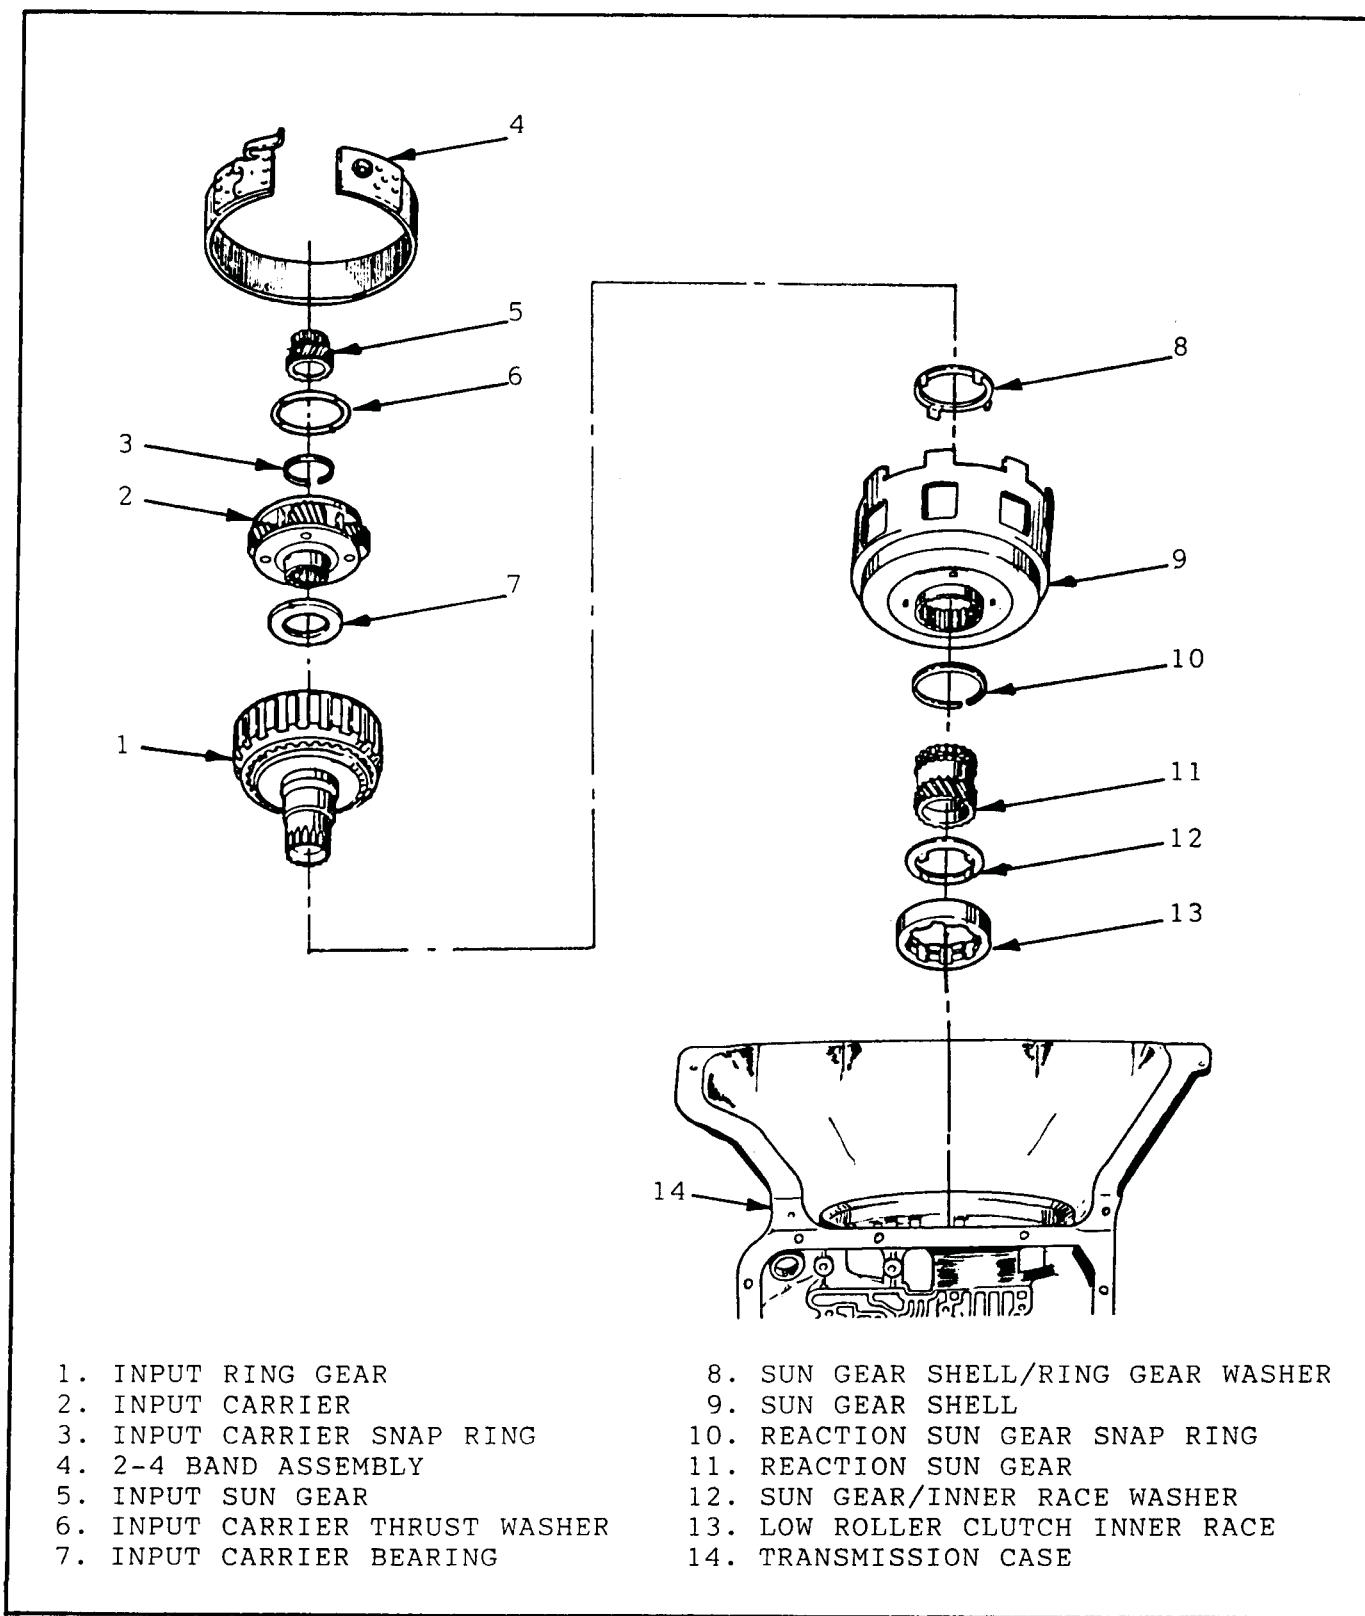

Figure 68
7. Remove the input carrier, and input ring gear and support as an assembly. Refer to Figure 68.
8. Remove ring gear support thrust washer, and sun gear shell (Figure 68).
9. Remove reaction sun gear, and thrust washer on top of low roller clutch inner race (See Figure 68).
10. Remove the low roller clutch inner race (See Figure 68).